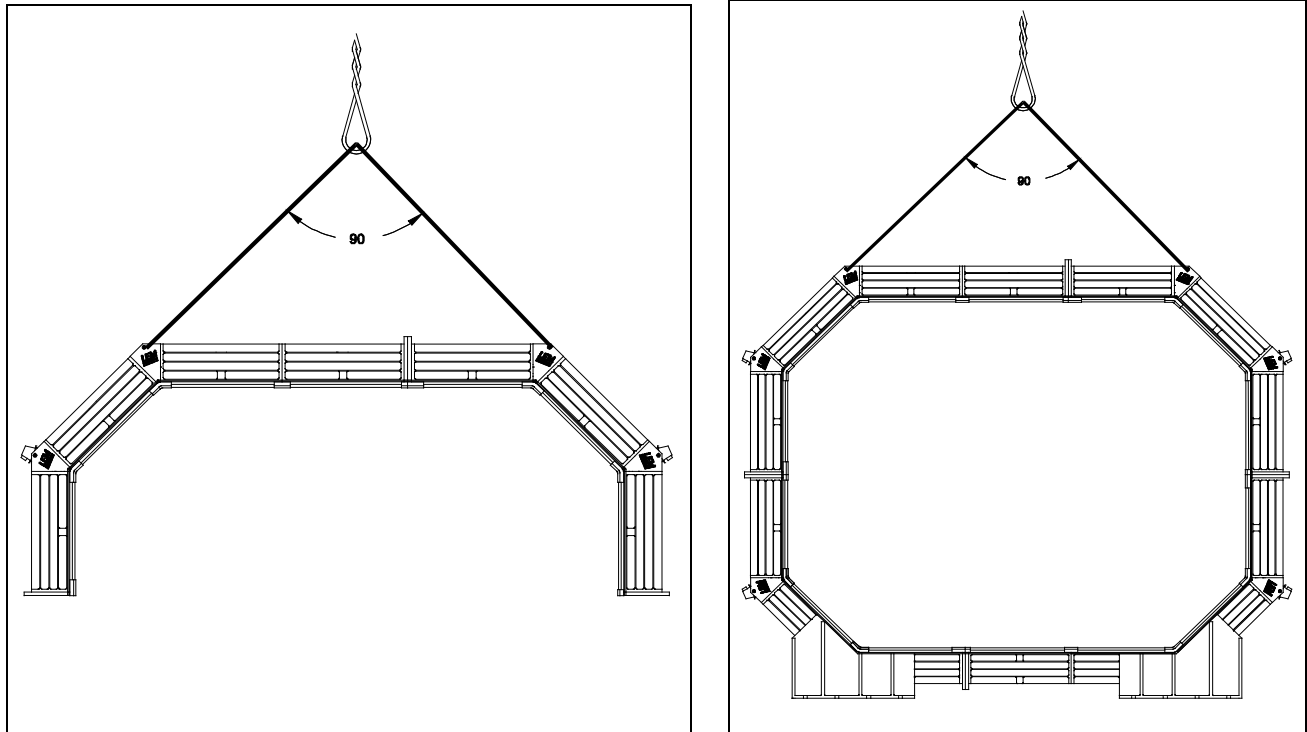

Figure 5.4 Setting The Upper Head Half On The Lower Half.
- 5.) Set the upper half onto the lower half as shown in Figure 5.4.